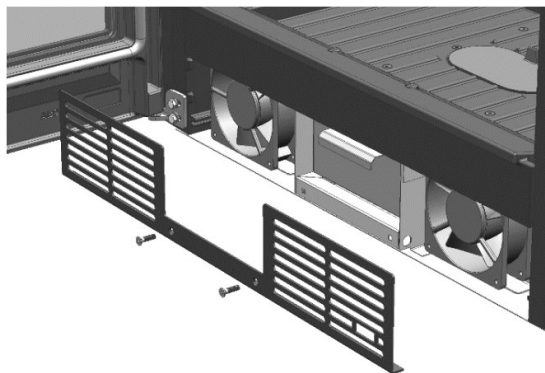

FIG. 5
1. Release the front grille by loosening the screws that hold it in place (Fig. 5)